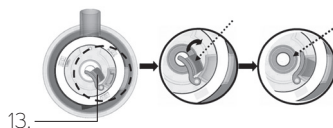

Fig. 1
Check that the silicone gasket seal (13) in the bottom part of the juice collector (fig. 1) is fitted correctly. The silicone gasket seal must tightly close off the pulp extractor, otherwise the resulting juice will contain too much pulp. To clean the appliance again, it is necessary to again remove the gasket seal.